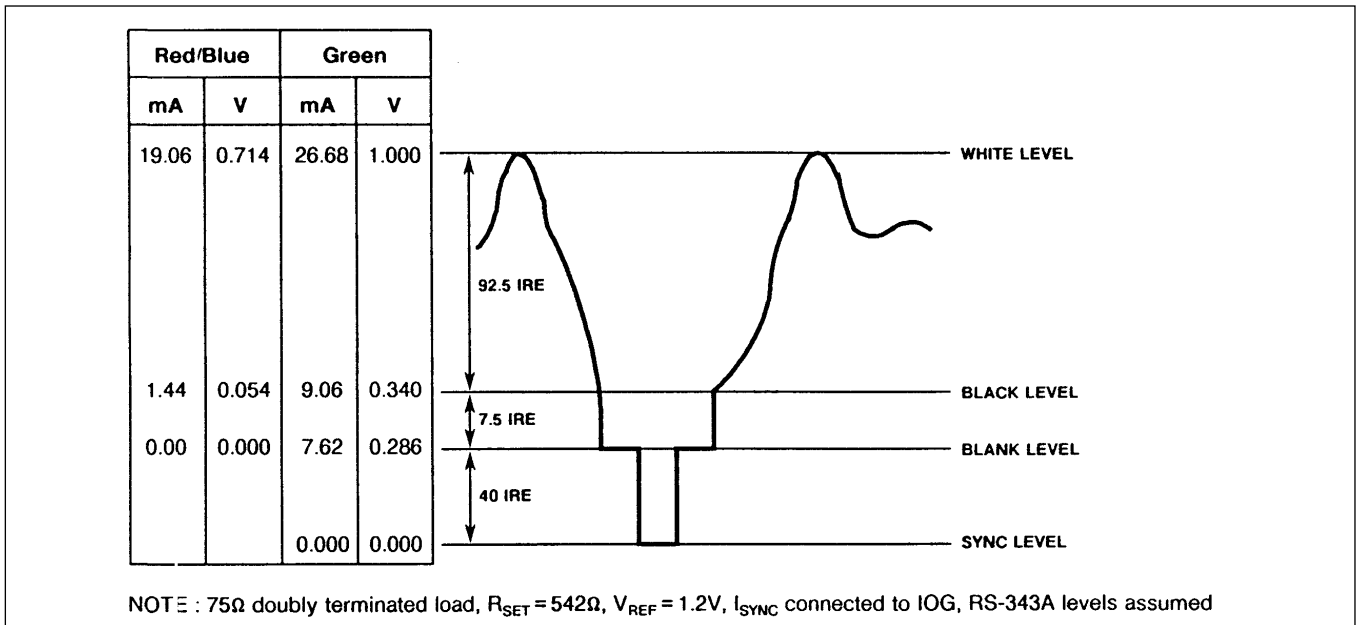

Fig.3 Composite video output waveform
SYNC and BLANK are latched on the rising edge of the clock to maintain synchronisation with the colour data. These inputs add appropriately weighted currents to the analog outputs, producing the specific output levels required for video applications as shown in Fig. 3. Table 1 details how the SYNC, BLANK, and REFWHITE inputs modify the output levels.
FS ADJUST	<p>Full scale adjust control. A resistor (R_{SET}) connected between this pin and AGND controls the magnitude of the full video signal (Fig. 3). The current flowing in the R_{SET} resistor is equal to 32 LSBs. note that the IRE relationships in Fig. 3 are maintained, regardless of the full scale output current. The relationship between R_{SET} and full scale current on IOG (assuming I_{SYNC} is connected to IOG) is:</p> $\text{IOG (mA)} = 12082 \times \frac{V_{\text{REF}} \text{ (V)}}{R_{\text{SET}} \text{ (}\Omega\text{)}} \cong 387 \text{ LSBs}$ <p>The full scale output current on IOR, IOB (mA) for a given R_{SET} is defined as:</p> $\text{IOR, IOB (mA)} = 8624 \times \frac{V_{\text{REF}} \text{ (V)}}{R_{\text{SET}} \text{ (}\Omega\text{)}} \cong 276 \text{ LSBs}$